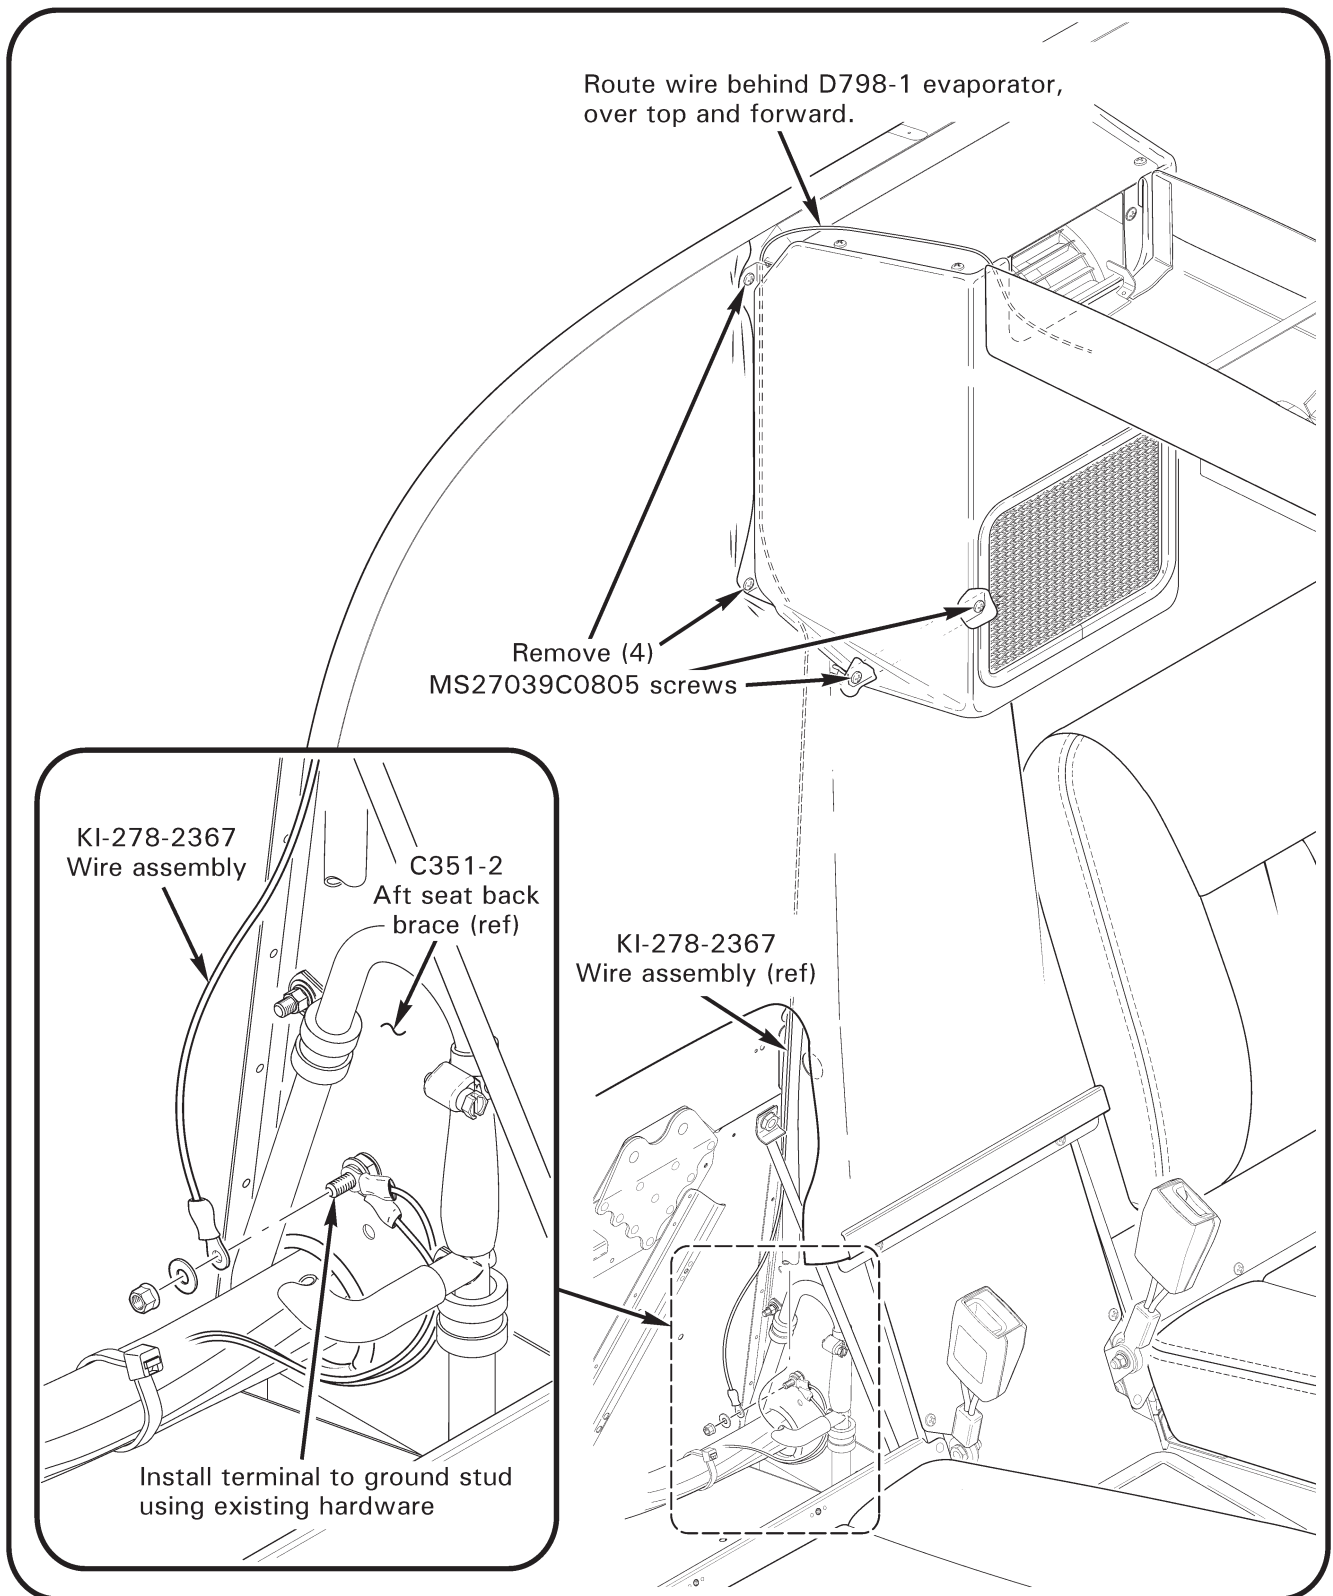

FIGURE 3 KI-278-2367 wire assembly installation
7. Refer to Figure 3. Remove (4) MS27039C0805 screws securing evaporator to bulkhead, two at lower flange and two at RH flange. With installation screws removed, carefully pivot evaporator away from bulkhead, just enough to route wire of KI-278-2367 wire assembly as shown, clearing lower flange. Using a rigid metal rod carefully route upward behind bulkhead foam insulation on RH (seat back) side, along existing wire bundle to lower edge of evaporator. Secure wire assembly to rod and carefully retract rod downwards. Install (4) MS27039C0805 screws securing evaporator to bulkhead, ensuring (KI-278-2367) wire assembly is clear of flanges.